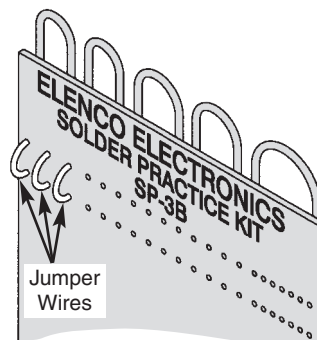

Figure 8a
2. Insert the wire between the top and bottom hole (see Figure 8a).